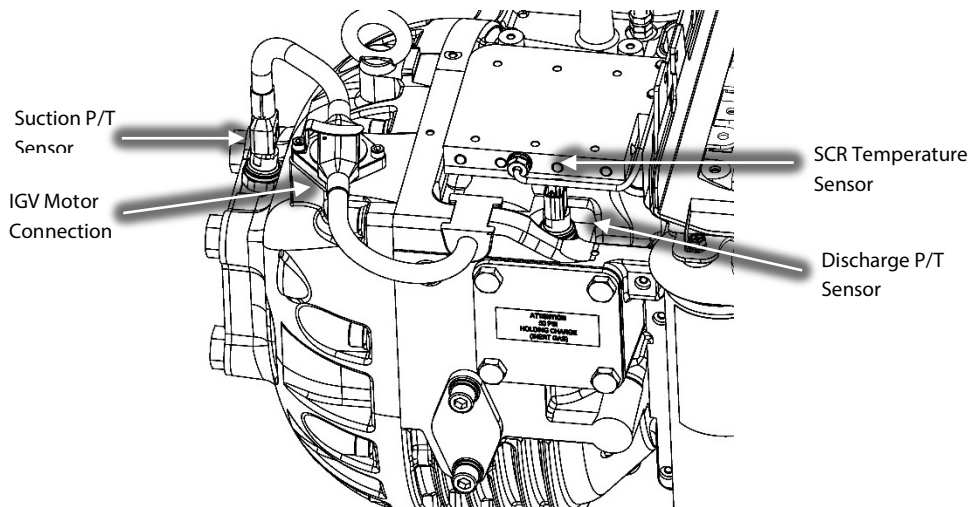

Figure 19 – Cable Harness Compressor Controller Removal
32. Disconnect the harness from the SCR temperature sensor, discharge P/T sensor, IGV motor connection, and the suction P/T sensor. Set the Compressor Controller Cable Harness aside. Refer to Figure 19 (Cable Harness Compressor Controller Removal).